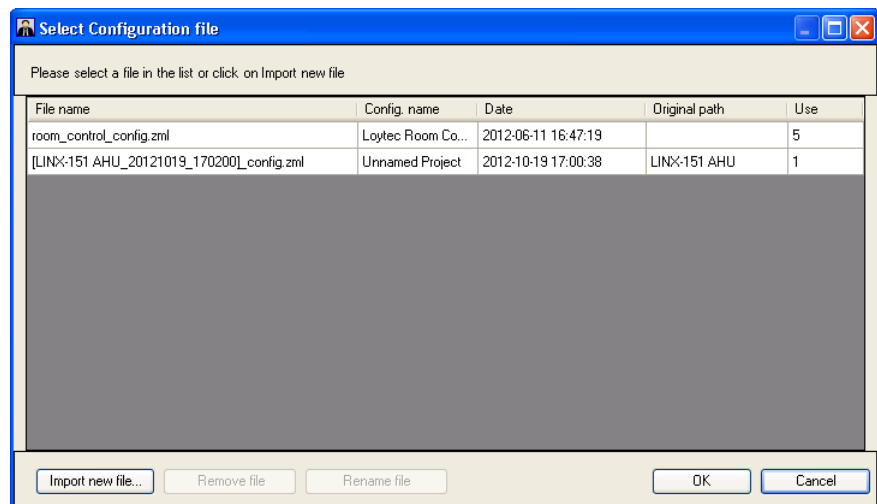

Figure 210: Select Configuration Dialog
3. The **Select configuration** dialog opens as shown in Figure 210. The dialog displays a list of compatible configuration files available in the LWEB-900 database. If the desired configuration file is already available in the list, select it and press **OK**.